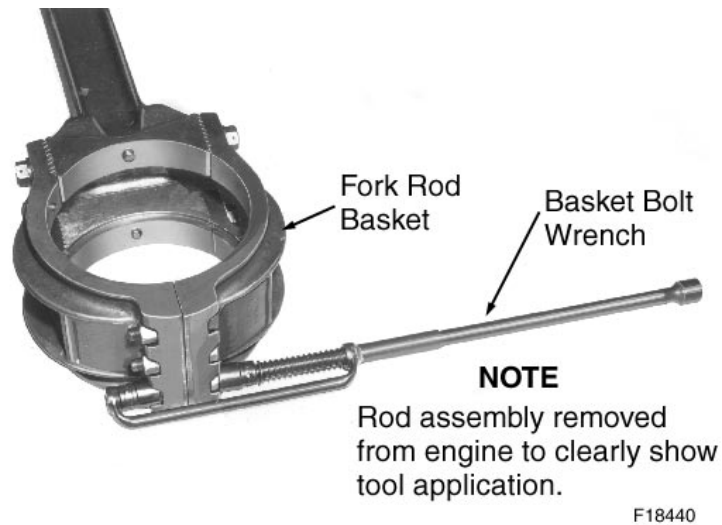

Figure 5-7. Basket Bolt Wrench Application
34. Remove the lower basket bolts and self-locking nuts using the spring-loaded basket bolt wrench, Figure 5-7., with a ratchet and extension.
20. Remove the lower basket bolts and nuts using the spring-loaded basket bolt wrench, Figure 5-7., on page 5-9, with a ratchet and extension.